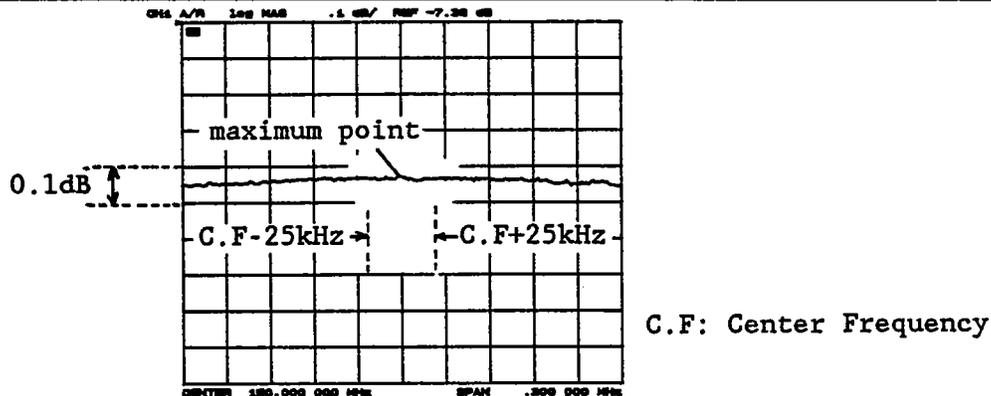

Figure 3-65. Receiver First IF Converter 86.6 MHz BPF Adjustment Example 2
- Adjust A22L2, L6, L7, and L9 (86.6 MHz BPF ADJ) until the ripple in the range displayed by the Network Analyzer is less than 0.1 dB (1 div.), and the maximum point is positioned at 150 MHz  $\pm$ 25 kHz as shown in Figure 3-65.